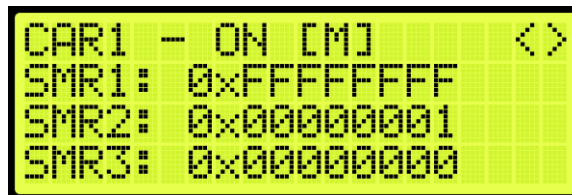

Figure 268: Rear Security Map Status
7. From the Rear Security Map Status (See Figure 268), press the right button.